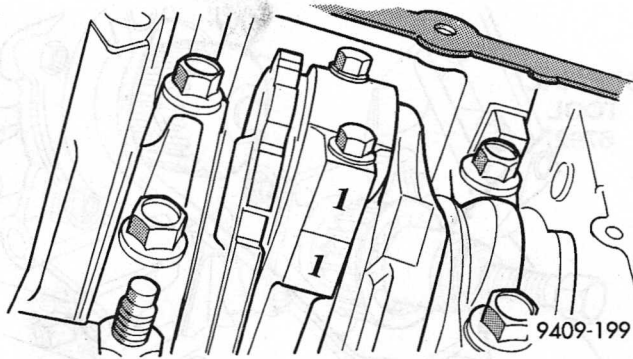

Fig. 91 Identify Connecting Rod to Cylinder
(2) Remove oil pan. Scribe the cylinder number on the side of the rod and cap (Fig. 91) for identification.
(3) Pistons have a directional stamping in the front half of the piston facing towards the **front** of engine.
(4) Pistons and connecting rods must be removed from top of cylinder block. Rotate crankshaft, so that each connecting rod is centered in cylinder bore.
(5) Remove Balance Shaft Assembly. Refer to Balance Shaft Removal in this section.
(6) Remove connecting rod cap bolts. Push each piston and rod assembly out of cylinder bore.